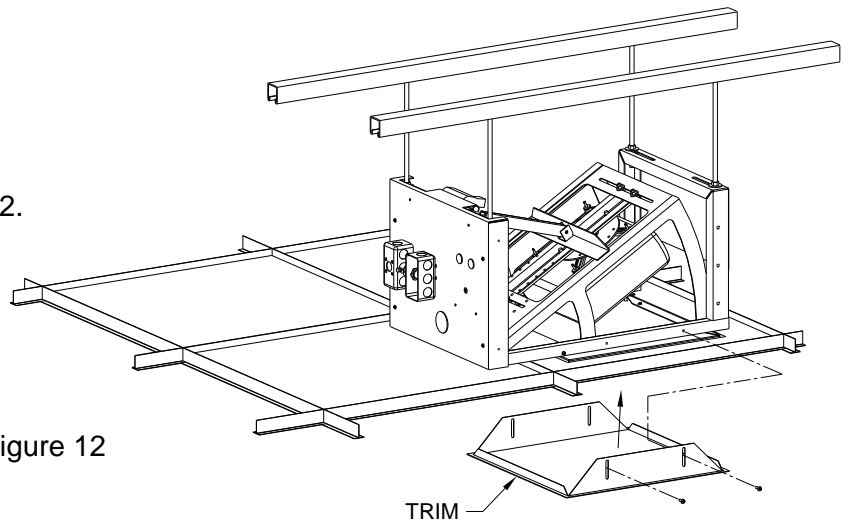

Figure 12
11. Install Trim Piece onto Da-Lift. See Figure 12. May need to adjust position of Ceiling Tile Holder to clear Trim.